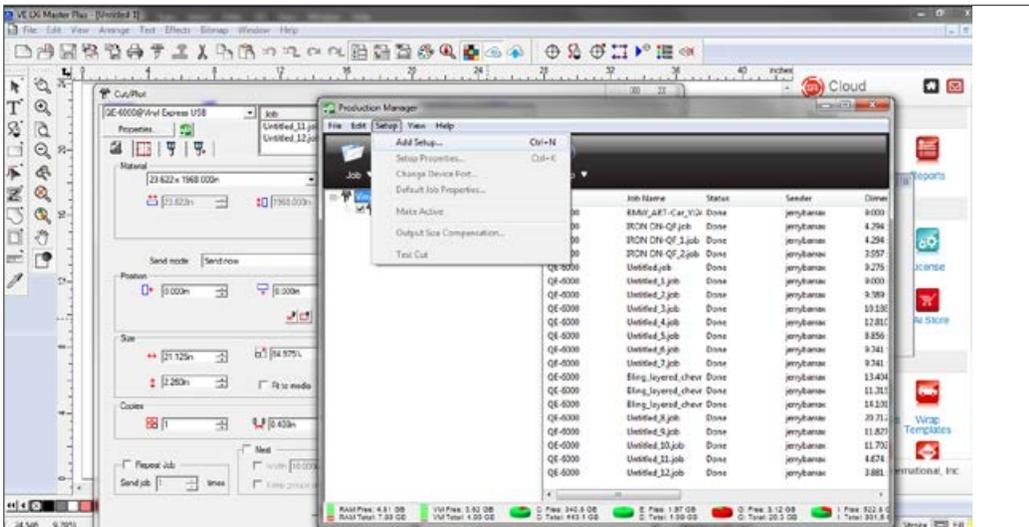

Figure 2-14
- 2: Then Open LXI software, draw a box or add text to the screen and click the Cut/Plot Icon, or click File/Cut-Plot to open the LXI Cut/Plot Window. When Production Manager opens, click Setup. Then from the drop-down menu, click Add Setup (Fig 2-14)